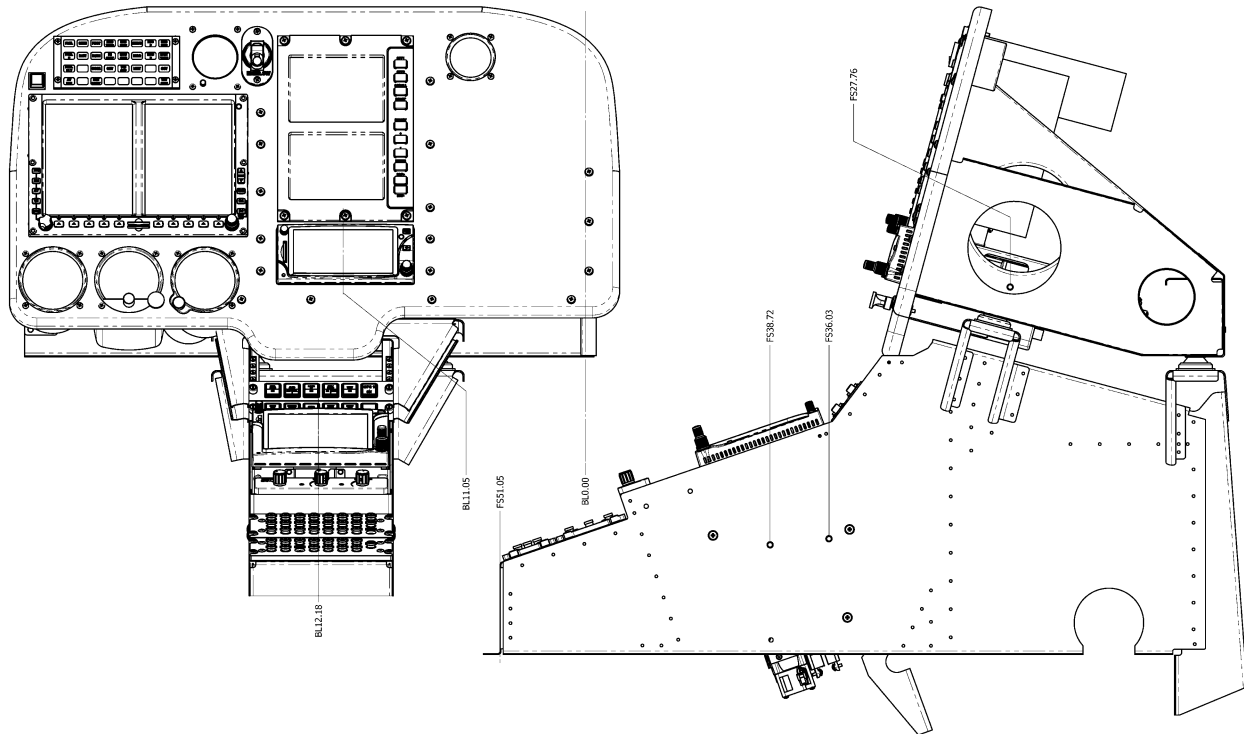
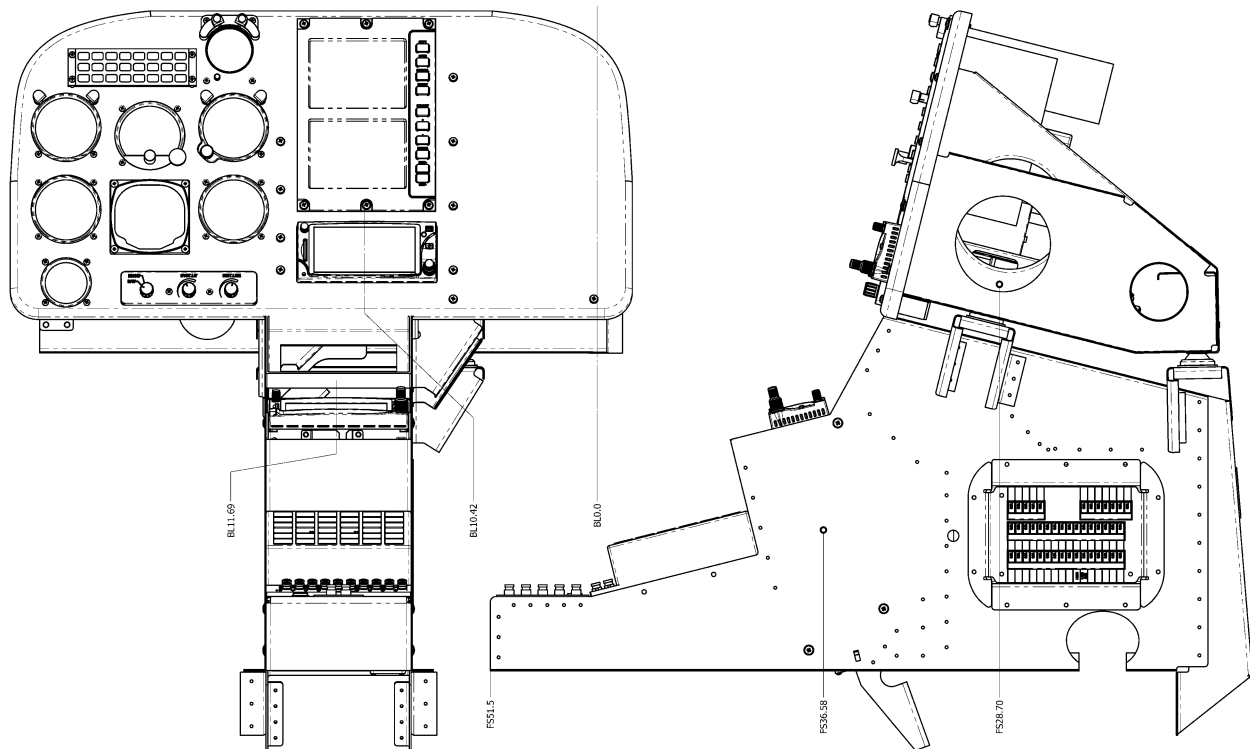

Figure 12. GTN and GMA 35 FS and BL Location in EC130T2
Figure 13. GTN and GMA 35 FS and BL Location in EC130B4
The location of GTN navigator and optional GMA 35 audio panel in reference to rotorcraft fuselage station (FS) and butt line (BL) is shown in Figure 12 with corresponding lateral and longitudinal arms and moments detailed in Table 7 for EC130T2, and in Figure 13 and corresponding Table 8 for EC130B4.